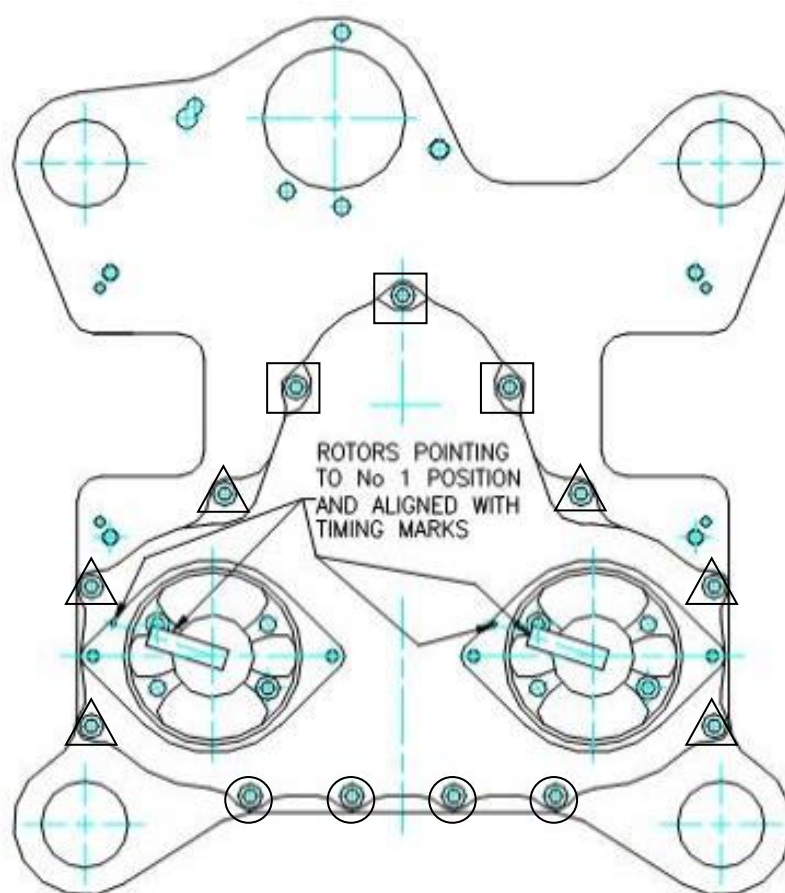

Figure 180 – Gearbox Installation
- Tighten the screws holding the gearbox to the engine. Note that different sized screws are used on the plate - Figure 180 refers.